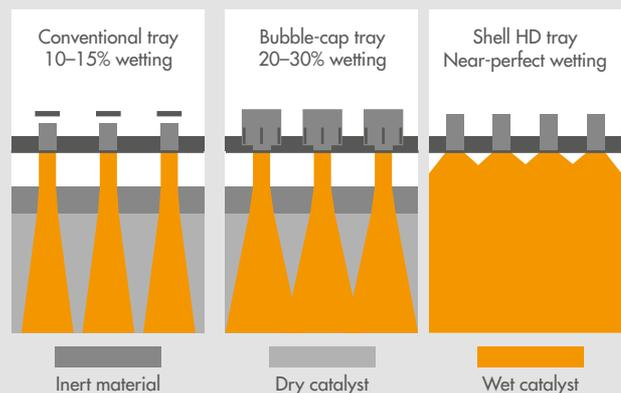

Figure 4: Shell HD trays incorporate proprietary nozzles that can help to maximise catalyst utilisation.
- **Shell HD trays**, which help to optimise catalyst utilisation by achieving enhanced vapour-liquid and thermal distribution, and utilise nearly 100% of the catalyst inventory (Figure 4);